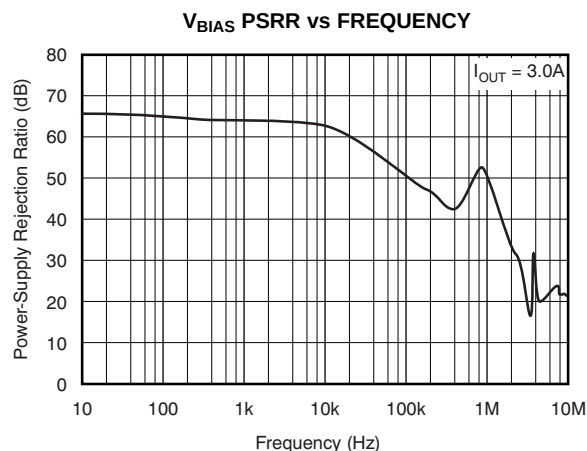
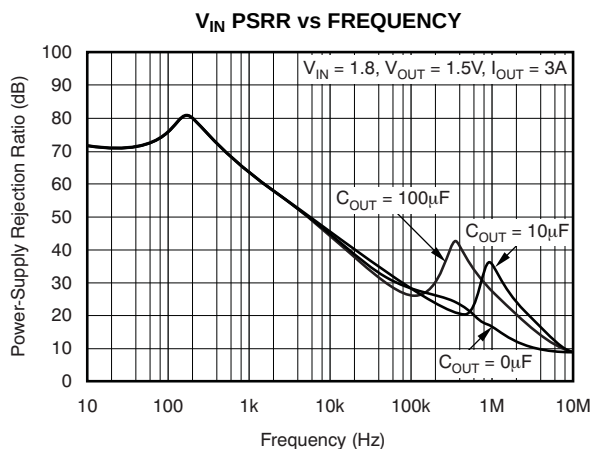

Figure 12.
Figure 15.
(1) Adjustable devices tested at 0.8V; external resistor tolerance is not taken into account.
(2) Dropout is defined as the voltage from the input to V_{OUT} when V_{OUT} is 2% below nominal.
(3) I_{FB} , I_{SNS} current flow is out of the device.
(4) See Figure 12 to Figure 15 for PSRR at different conditions.